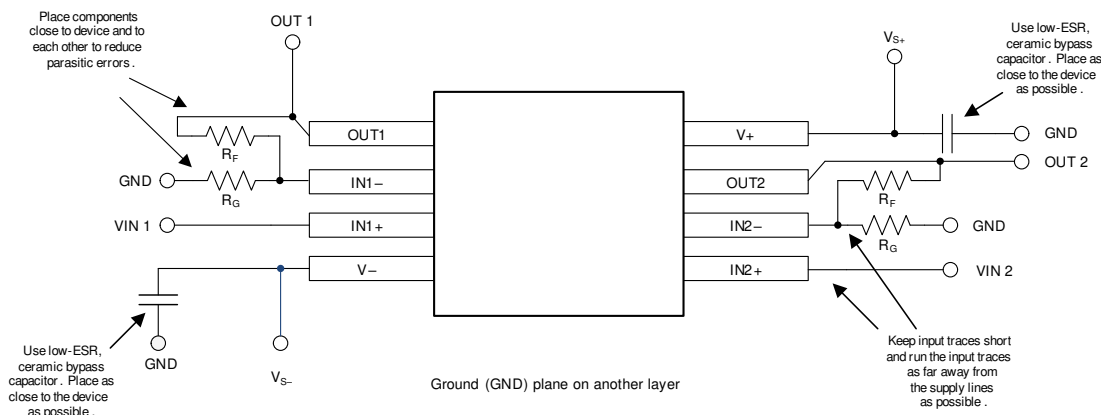

图 11-2. Layout Example
- Place the external components as close to the device as possible, as shown in 图 11-2. Keeping R_F and R_G close to the inverting input minimizes parasitic capacitance.